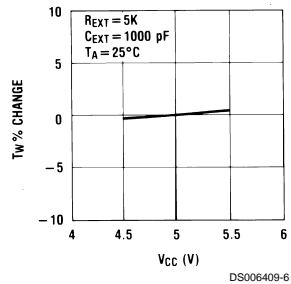

FIGURE 5.
7. Output pulse width versus  $V_{CC}$  and temperatures: Figure 5 depicts the relationship between pulse width variation versus  $V_{CC}$ . Figure 6 depicts pulse width variation versus temperatures.
9. Under any operating condition  $C_X$  and  $R_X$  must be kept as close to the one-shot device pins as possible to minimize stray capacitance, to reduce noise pick-up, and to reduce I-R and  $Ldi/dt$  voltage developed along their connecting paths. If the lead length from  $C_X$  to pins (6) and (7) or pins (14) and (15) is greater than 3 cm, for example, the output pulse width might be quite different from values predicted from the appropriate equations. A non-inductive and low capacitive path is necessary to ensure complete discharge of  $C_X$  in each cycle of its operation so that the output pulse width will be accurate.